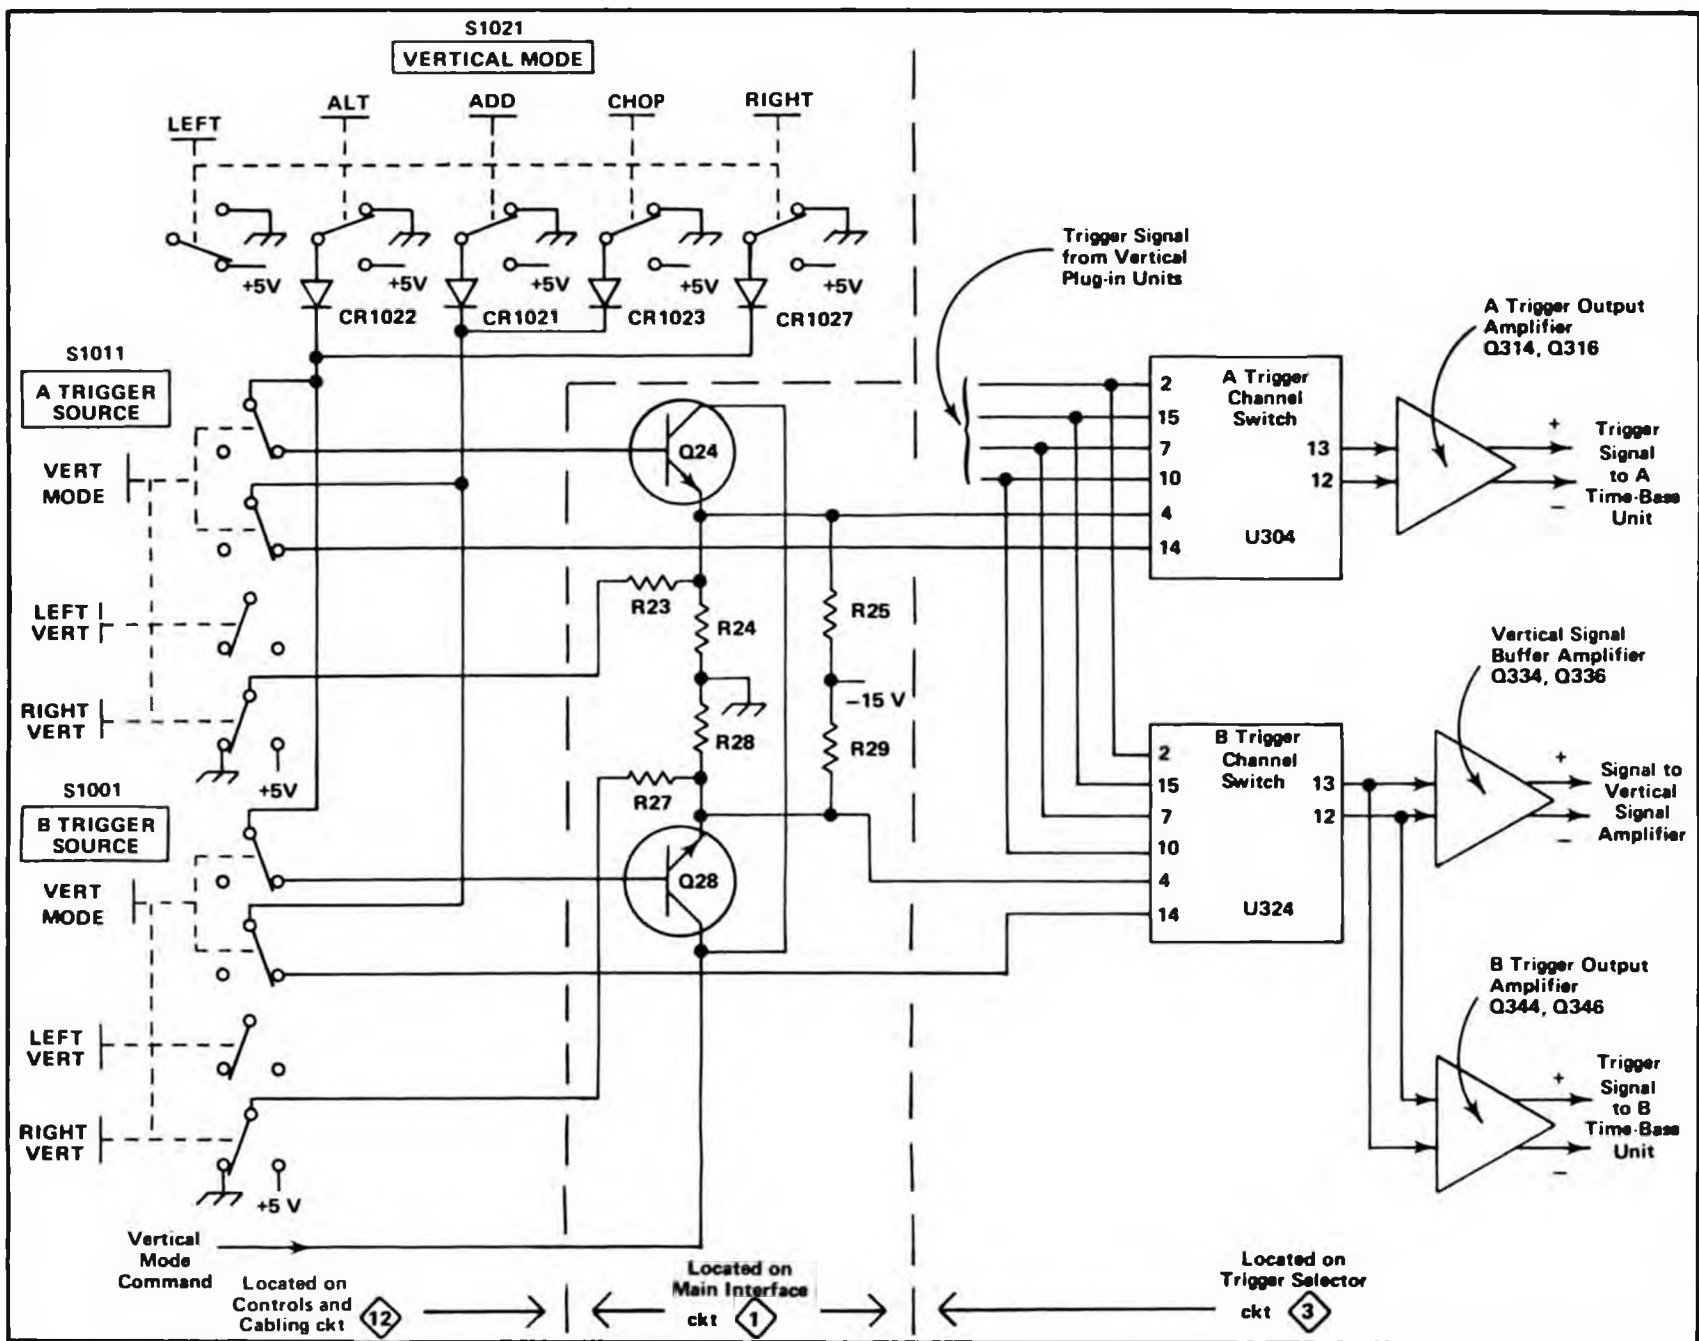

Fig. 3-21. Simplified schematic of trigger selector circuitry.
the B TRIGGER SOURCE switch. Fig. 3-21 shows a detailed block diagram of the Trigger Selector circuit along with a simplified diagram of all the circuitry involved in selection of the trigger source. A schematic of the Trigger Selector circuit is shown on diagram 3 at the rear of this manual. Also see diagrams 1 and 12 for the trigger selection circuitry not shown on diagram 3.
**General.** The circuitry shown on the left side of the simplified diagram in Fig. 3-21 determines the operation of the A and B Trigger Channel Switch stages. The A TRIGGER SOURCE switch S1011 controls the A Trigger Channel Switch U304 through Q24; the B TRIGGER SOURCE switch S1001 controls the B Trigger Channel Switch U324 through Q28. When the front-panel A or B TRIGGER SOURCE switches are set to the VERT MODE positions, the setting of the VERTICAL MODE switch determines the trigger selection. In the LEFT VERT or RIGHT VERT positions, the trigger signal is obtained from the indicated vertical unit. The following discussions give detailed operation in each position of the A and B TRIGGER SOURCE switches. It is written assuming that both of these switches are set to the same position. However, the A and B TRIGGER SOURCE switches operate independently to control the operation of the A and B Trigger Channel Switch stages respectively, to select the trigger output signal for the associated time-base unit.